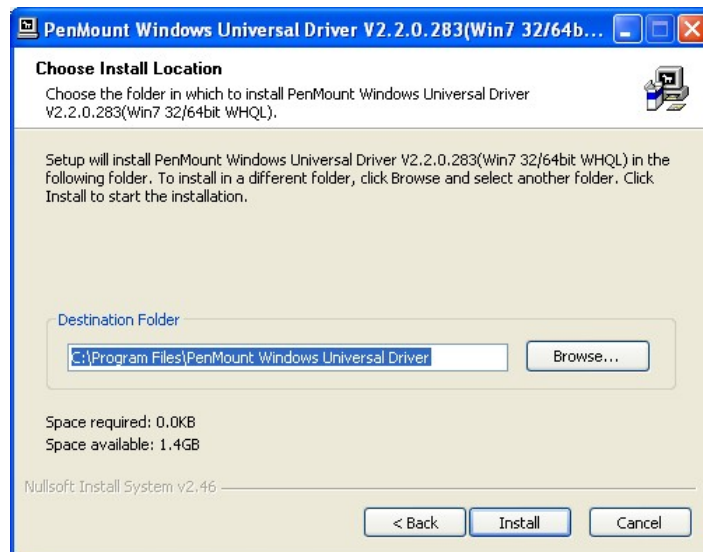

Figure 5-4: Initiate Install
Step 8: The installation destination screen appears. See **Figure 5-4**. Click **Install**.